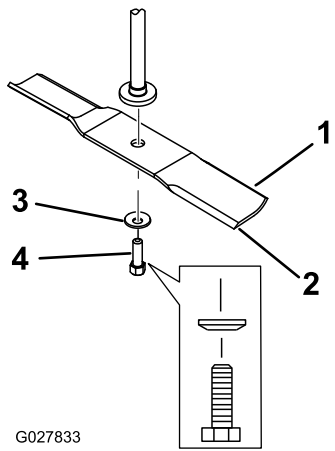

Figure 49
2. Remove the blade bolt, the curved washer, and the blade from the spindle shaft (Figure 49).
1. Install the blade onto the spindle shaft (Figure 49).
2. Install the blade stiffener (32-inch decks only), the curved washer (cupped side toward the blade), and the blade bolt (Figure 49).